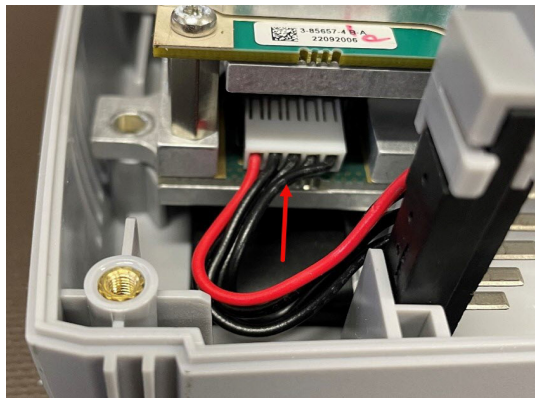

Figure 5-9. Battery Cable Removal
6. Disconnect the battery cable and remove the battery shroud. See Figure 5-9.